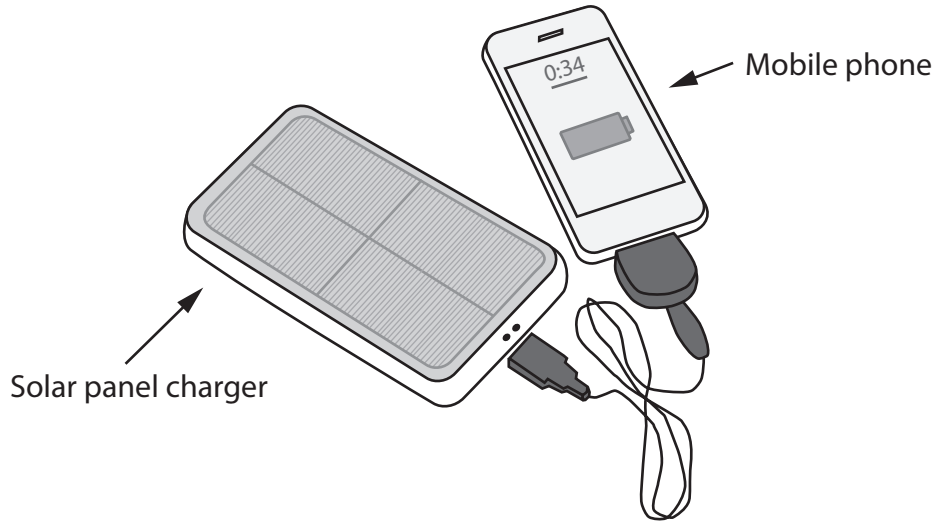

Figure 7
*(b) Figure 7 shows a solar panel charger connected to a mobile phone.